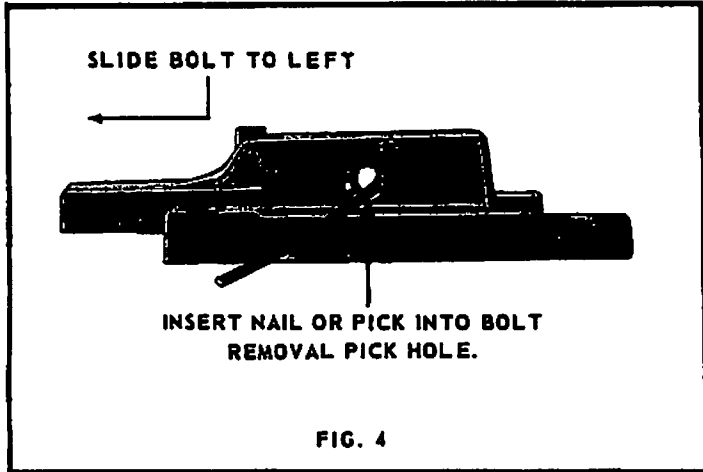

FIG. 4
3. With BOLT in pick position, insert a nail, scratch awl or pick into the small hole under the SHACKLE hole and hold up as shown in figure 4.